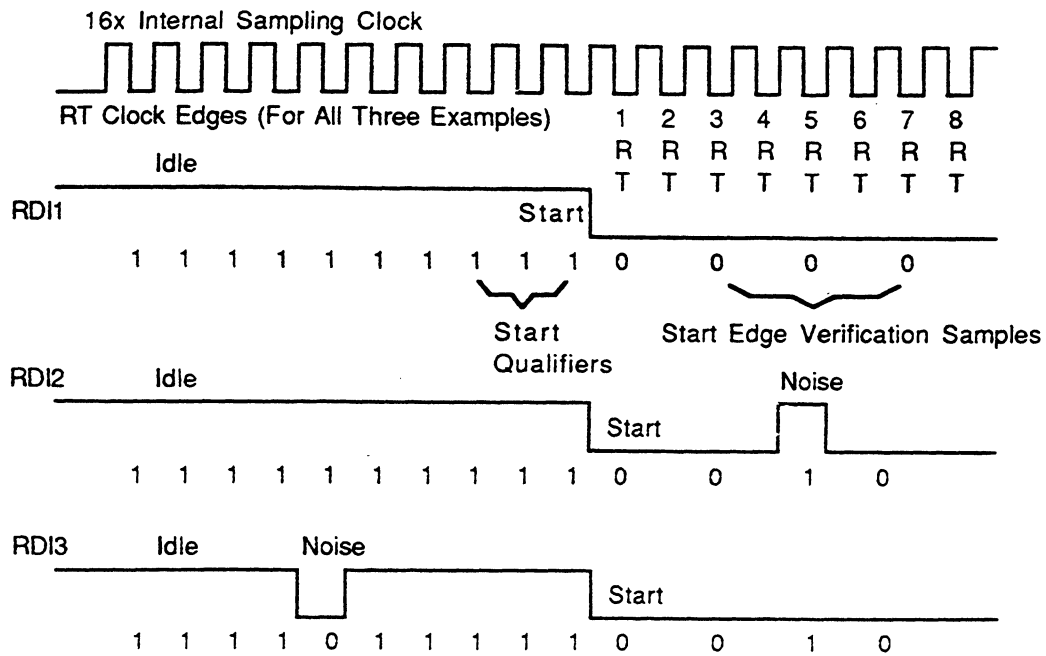

FIG. 5-2 Example of Start-Bit Sampling Technique
If there has been a framing error (FE) without detection of a break (10 zeros for 8-bit format or 11 zeros for a 9-bit format), the circuit continues to operate as if there actually were a stop bit, and the start edge will be placed artificially. The last bit received in the data shift register is inverted to a logic one, and the three logic-one start qualifiers (shown in Fig. 5-2) are forced into the sample shift register during the interval when detection of a start bit is anticipated (see Fig. 5-4); therefore, the start bit will be accepted no sooner than it is anticipated.